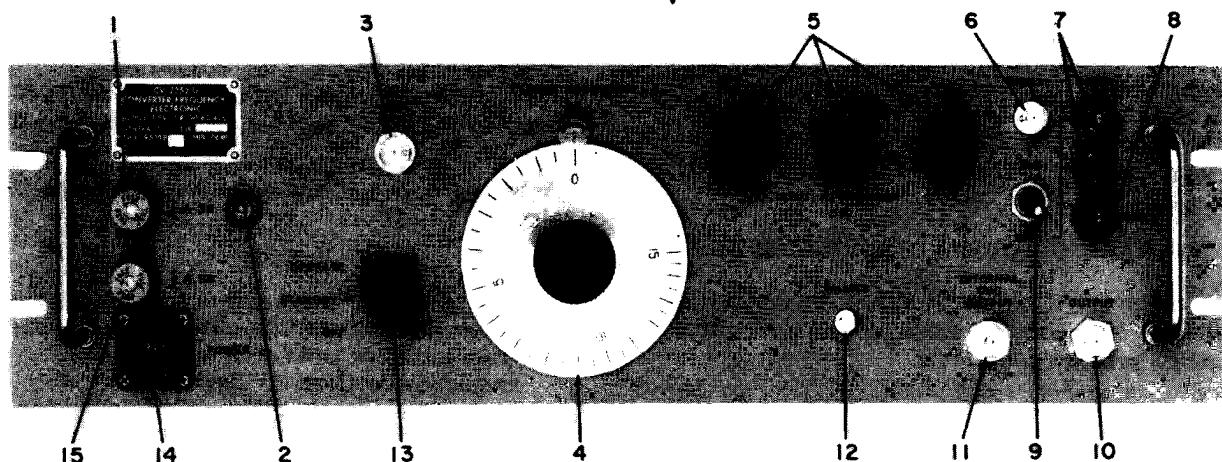

Figure 3-1. Front Panel
b. The 8-foot power cable is connected between the POWER jack (14, figure 3-1) and a source of 115-volt, 50/60/400 cycle, single-phase power.
a. Check the fuse and mechanical operation of controls (figure 3-1). Failure of any control to operate properly is sufficient cause for failure of the converter to pass this test.
(1) Remove the caps from the fuseholders and check that both fuses are rated at 1/4 ampere. Visually inspect the fuses for any defects. Replace the fuses and caps.
(2) Operate the CENTER FREQUENCY KC control over its entire range. It should move smoothly without binding or sticking.
(3) Operate all switches to all positions. Switches should operate smoothly and seat positively in each position.
(4) Check that all internal cables are securely connected.
a. DESCRIPTION OF CONTROLS. The operating controls and indicators are listed below and illustrated in figure 3-1.
(1) 1/4 A. SB fuse 2F301 (1, figure 3-1) - protects input power line in the event of a converter short circuit.
(2) Power on indicator, 05301 (2) - indicates that a-c power has been applied.
(3) EXT OSC. INPUT jack, J107 (3) - input jack for the external oscillator signal.
(4) CENTER FREQUENCY KC control, R404 (4) - varies the internal oscillator between 2985 kc and 3000 kc.
(5) INPUT ATTENUATOR DB switches, S101, S102, and S103 (5) - adjusts the amplitude of the input test signal.
(6) SIGNAL INPUT-75  $\Omega$  jack J104 (6) - input jack for test signal.
(7) SIGNAL INPUT - 600  $\Omega$  jacks, J101 and J102 (7) - the jacks to which a balanced 600-ohm impedance input test signal is connected.
(8) SIGNAL INPUT-GND jack, J103 (8) - ground connections for 75-ohm and 600-ohm unbalanced input, test signals.
(1) Connect a coaxial cable between the EXT OSC INPUT jack (3, figure 3-1) and the output of a variable frequency generator or signal generator.
(2) Connect a coaxial cable between the INTERNAL OSC. OUTPUT jack (11) and the oscillator input of the spectrum analyzer.
(3) Connect a coaxial cable between the OUTPUT jack (10) and the spectrum analyzer signal input.
(4) Connect the input test signal to the SIGNAL INPUT jacks. Select the proper jacks as follows:
(5) Connect the power cable to the POWER jack (14).
b. POWER OFF MODE OPERATION. - If it is desired to operate in the frequency range of 2 to 40 mc, place the POWER switch (13, figure 3-1) in the OFF position. The external oscillator signal is routed directly to the spectrum analyzer via INTERNAL OSC. OUTPUT jack (11). No further operation of the converter is required.
c. STANDBY MODE OPERATION. - If it is desired to operate intermittently in the 100 cps to 2 mc range, place the POWER switch (13) in the STANDBY position. The POWER ON indicator (2) will light. Signal routing is the same as for power off mode (paragraph 3-4b, above). In addition, the internal oscillator is energized and ready for use.
(1) Adjust the INPUT ATTENUATOR DB switches (5, figure 3-1) for maximum attenuation.
(2) Place the POWER switch (13) in the OPERATE position. The power on indicator (2) will light.
c. EMERGENCY MAINTENANCE. - The only maintenance authorized for the operator is to check and replace 1/4 A. SB fuses (1 and 15, figure 3-1). They should be checked only if the power on indicator (2) does not light when power is applied.
- a. Figure 3-1. - location of front panel controls.